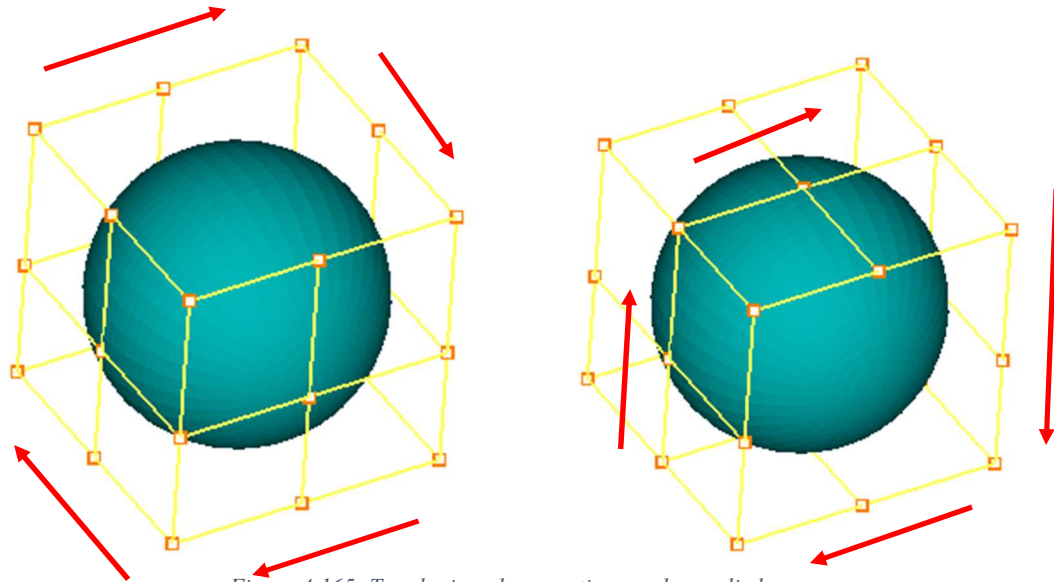

Figure 4.165: Topologies where nesting can be applied
3. Nesting can be performed along 2D sheet only, and it is applied in 1D, as seen in Figure 4.165.